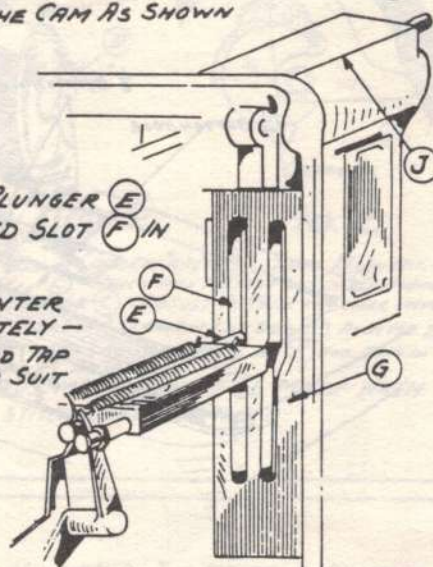

FIG. 2
Thread Grabber (F), Fig. 2, should be positioned to catch and lightly hold the Under Thread against the back beveled edge of the Throat Plate as the machine stops. A slight tug on the garment as it is removed from the machine will cause the thread to break at the knot of the last stitch.